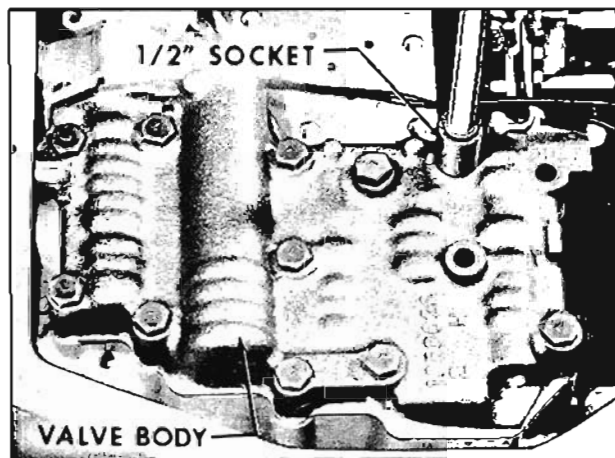

Fig. 6-461 Installing Valve Body Attaching Bolts
5. Install 11 valve body to case retaining bolts. Torque bolts 8 to 11 ft. lbs. (Fig. 6-461)